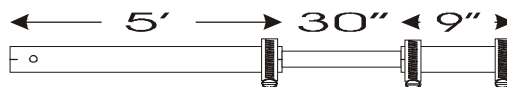

Figure 1
- [] 6. Now take the 1.0" x 30" piece of aluminum and place at a minimum 2 inches into the long aluminum element (5' x 1 1/8"). The end of the long (5') piece used should be the one without the hole drilled in it. See Figure 1.